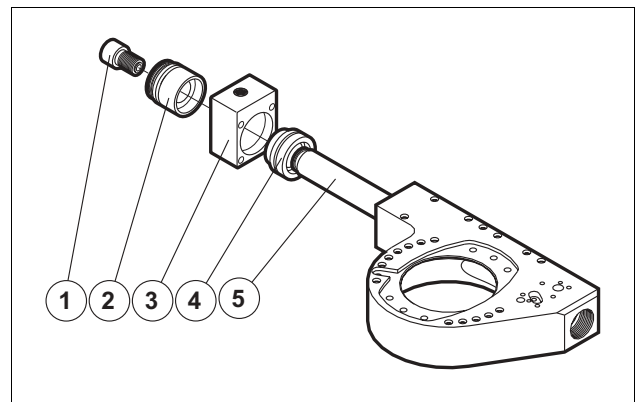

Fig. 39 Replacing Gland Seals
3. Remove the piston(2) from the piston rod(5) by loosening the gland screw (1). Use a 19mm Allen key. *See Fig. 39.*
4. Remove Connection flange(3) and Gland(4) from piston rod. *See Fig. 39.*